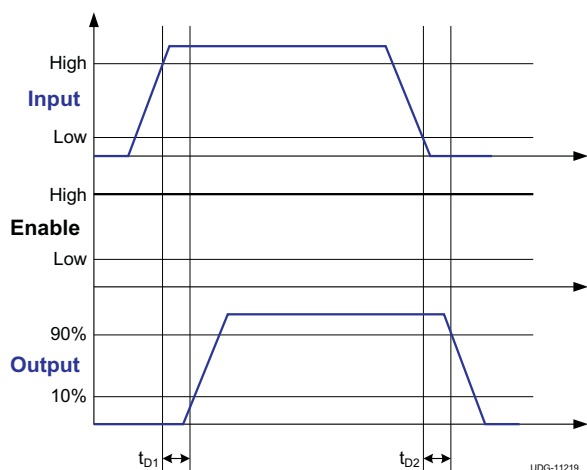
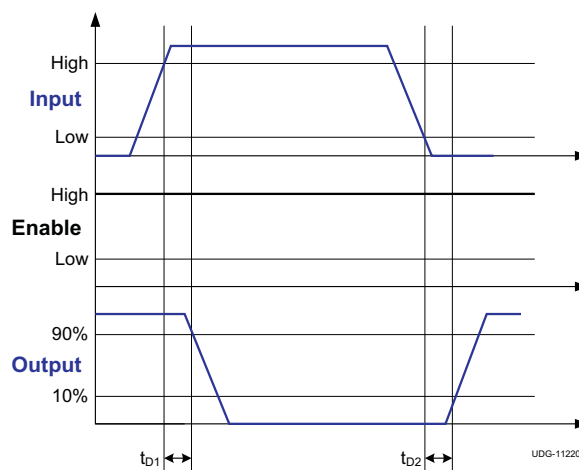

Figure 3. Non-Inverting Input Driver Operation
Figure 4. Inverting Input Driver Operation
(1) See timing diagrams in Figure 1, Figure 2, Figure 3, and Figure 4